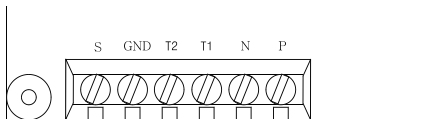

Figure 3. Termination Configuration
- ⑦ Power down the inverter for the connection of converter when step ⑥ is finished.
- ⑧ If the inverter is to be placed at the end of the network trunk line, install a jumper on the option card to enable the termination resistor(120 Ω). (See the Figure 3).